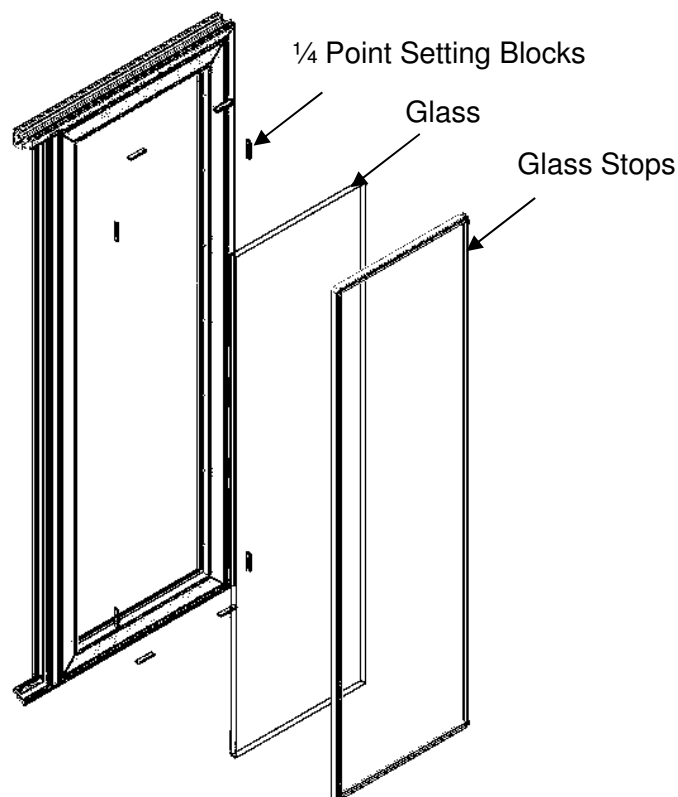

Figure 11:
- Install glass setting blocks (total 8 pcs per panel) at $\frac{1}{4}$ points into each jamb, head and sill for all four corners (Figure 11).
- Install glass to panel (Figure 11).